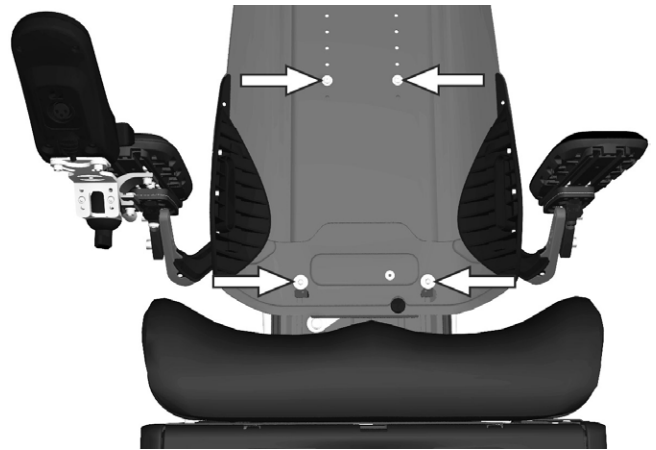

Figure 191. The lower backrest plate is secured by means of four locking devices.
1. Assembly the lower backrest plate by lining up the four "keyholes" on the locking devices and then sliding the plate straight down. See fig. 191.